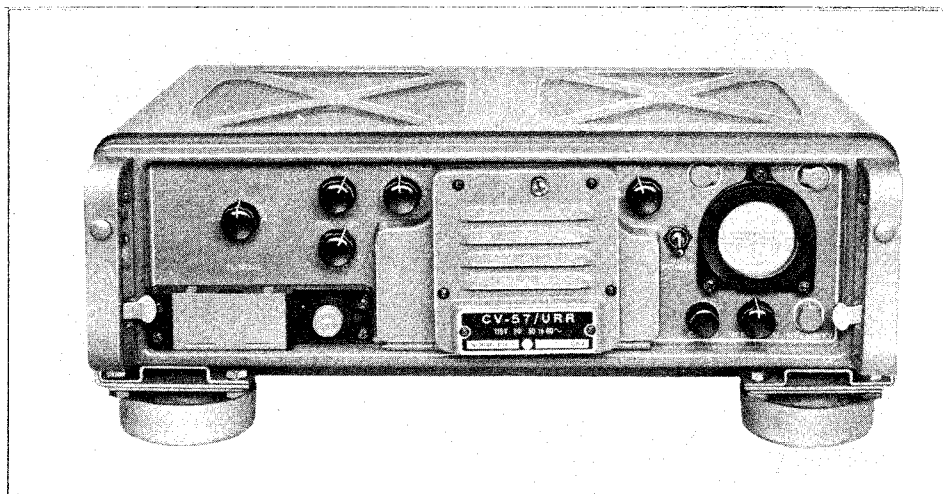
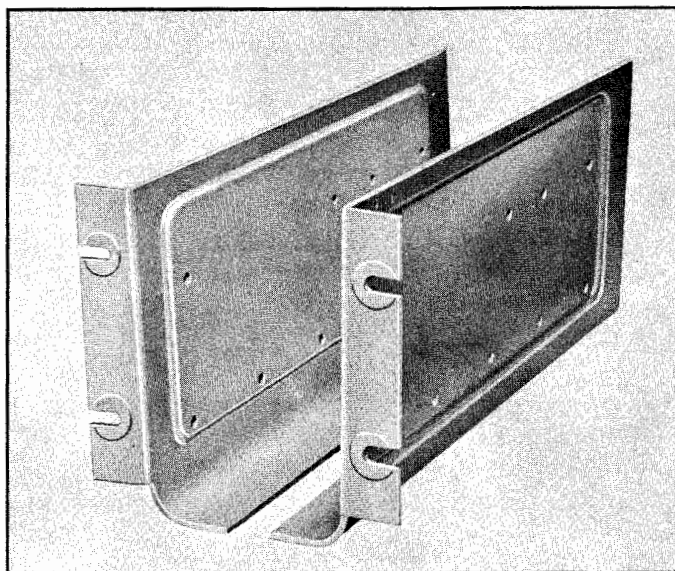

Figure 1-1b. Frequency Shift Converter CV-57/URR
Figure 1-2. Gusset, Rack Mounts for Frequency Shift Converter CV-57/URR
*a.* FREQUENCY SHIFT CONVERTER CV-57/-URR.—See Figure 1-1b. Frequency Shift Converter CV-57/URR may be used either alone or as a component of the Frequency Shift Converter-Comparator Group AN/URA-6. It is housed in a case 5-1/8 inches high, 17-5/16 inches wide, and 11-13/16 inches deep. The unit is finished in smooth grey enamel. Removable brackets with shock mounts are supplied for table mounting; when so mounted the overall height is 7-1/8 inches. Brackets are supplied for standard relay rack installation without the shock mounting feature (See Figure 1-2). The chassis slides completely out of the cabinet, on rails, and can be placed in one of several positions to facilitate servicing (see Figure 7-1). The front panel controls